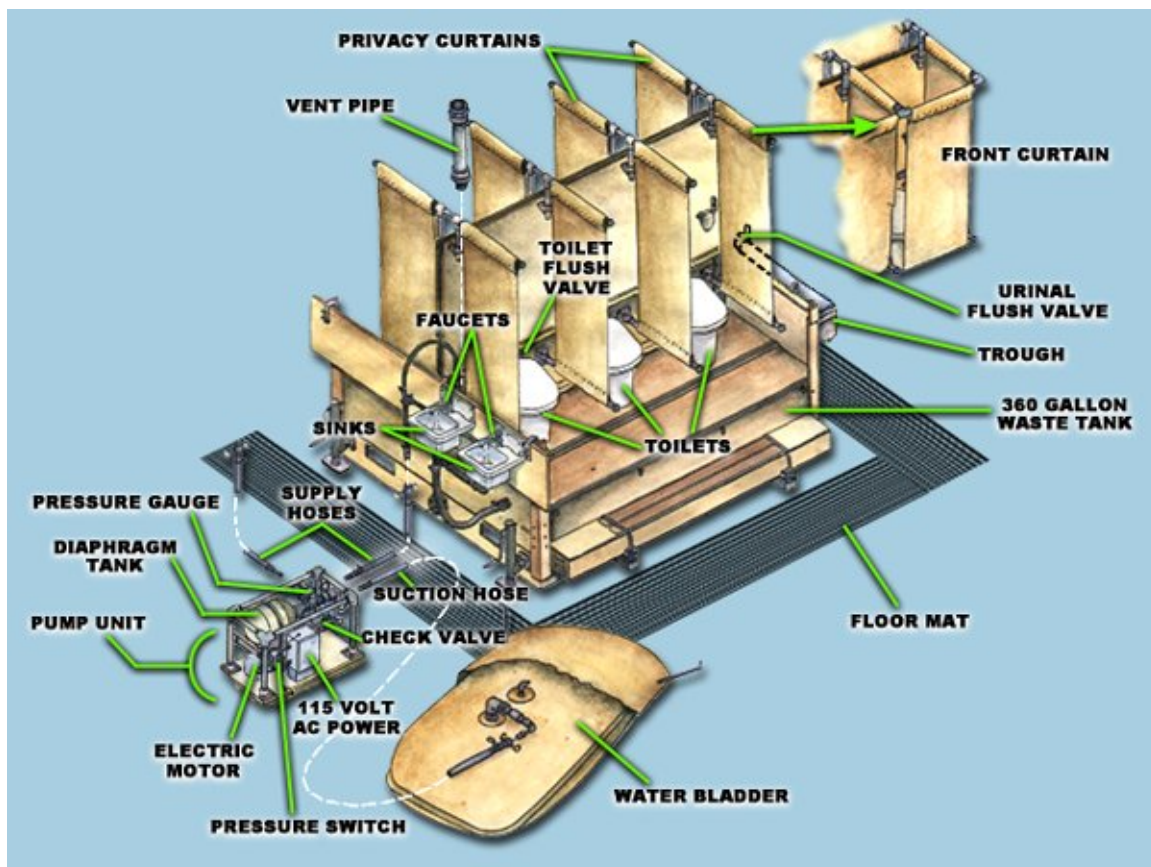

Figure 1. Field Deployable Latrine.
1. Background: The field deployable latrine consists of two latrine units (six toilets each), and a pumping unit. The pumping unit consists of an electric motor, centrifugal water pump, check valve, diaphragm pump, pressure switch, and pressure gauge, suction hoses, two supply hoses, and associated fittings. When the electric motor operates, water is drawn from the water tank through the suction hose and check valve and delivered to the latrine units via the supply hoses. The check valve, in conjunction with the pressure switch and diaphragm pump, ensures a constant operating pressure of 20 to 40 pound per square inch (psi). The pressure gauge permits external monitoring of system pressure. The latrine units (two per complete installation) include the six flushable toilets (mounted to the latrine floor), a urinal trough, two sinks, waste tank and base assembly. Sink faucets, urinals, and toilets used on the latrine units are timed devices, dispensing only a measured amount of water with one activation of the push button/valves. (See Figure 1.)